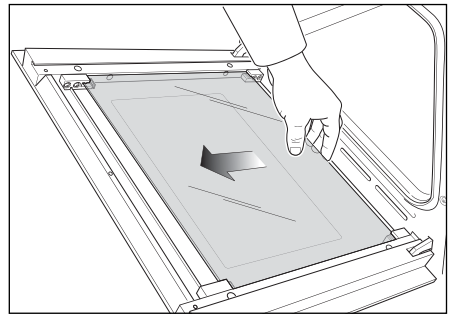

Fig. 45b
- Gently unlock the middle pane of glass from the bottom clamps by moving it as in Fig. 45b.